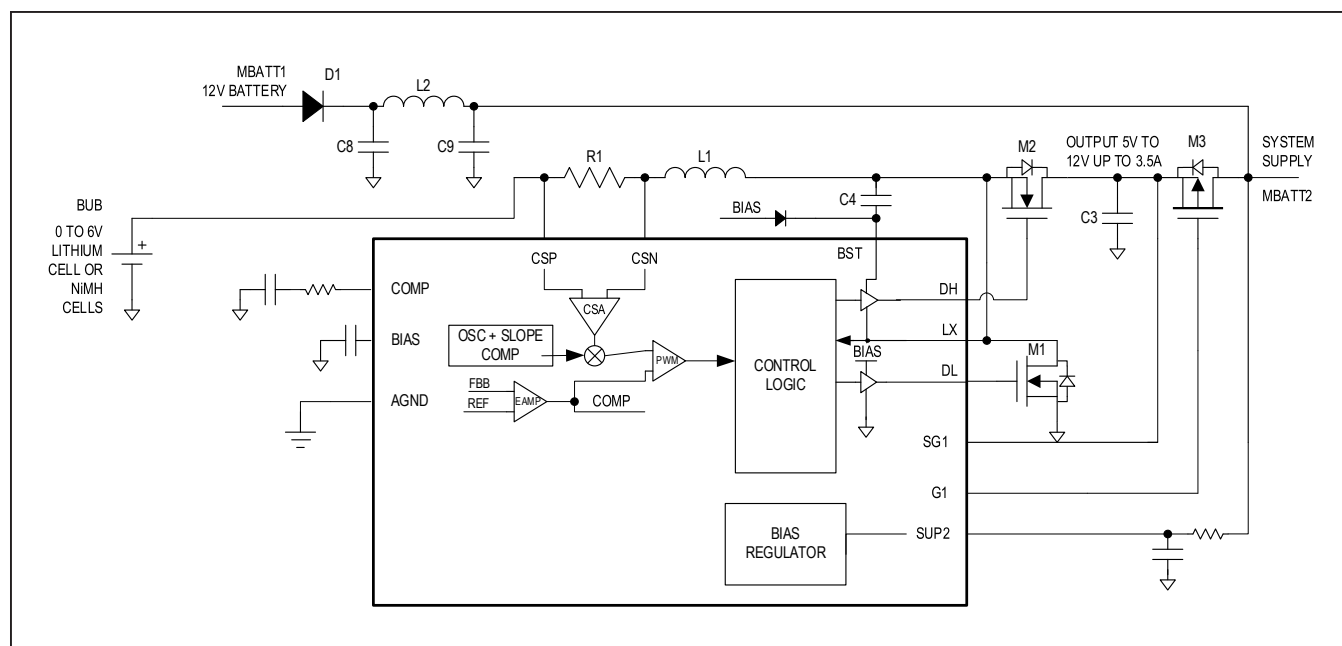

Figure 3. Boost Block Diagram
The ICs have low standby supply current, as mentioned in the Electrical Characteristics table, but still allow for 250 μ s (max) quick turn-on time once V_{SUP2} falls below BST_OV_F . I²C settings are held during the low-standby mode. In this mode, MOSFET M3 (see Figure 3) is OFF until the boost's overvoltage (OV) falling threshold triggers, and then it turns ON.